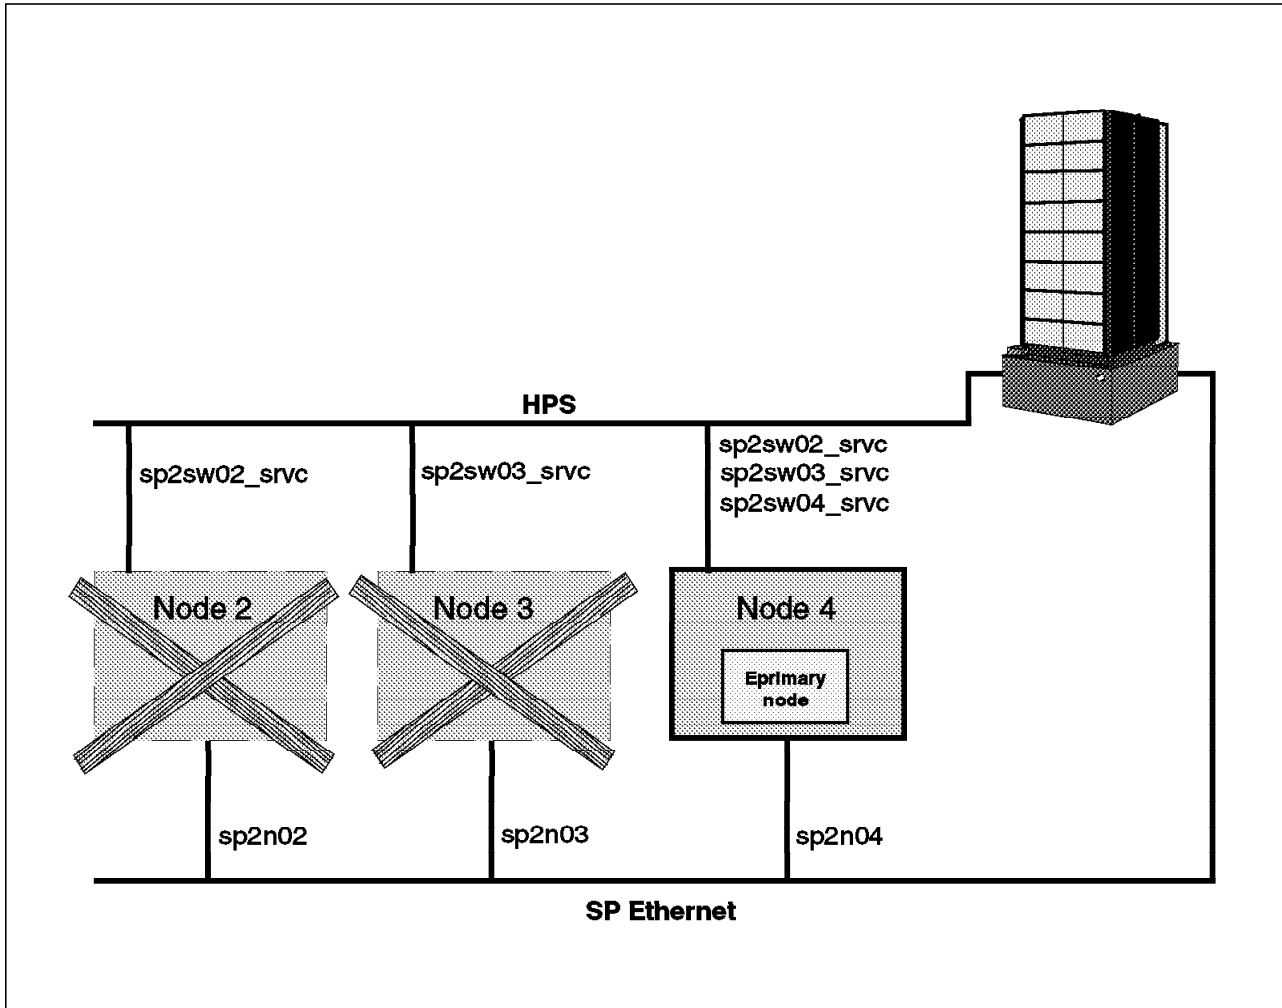

Figure 34. Results after sp2n03 and sp2n02 Have Failed
- The pictorial presentation of the expected behavior is shown in Figure 34.